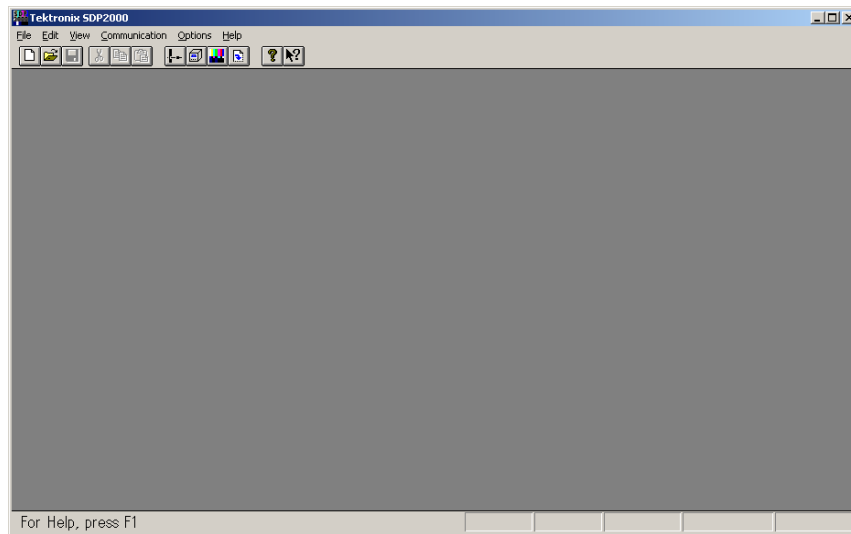

Figure 2 SDP2000.EXE Start-Up Window
STEP 2 Select then execute SDP2000.EXE. SDP2000 Opening Window appears first, and the window shown below opens (refer to Figure 2).